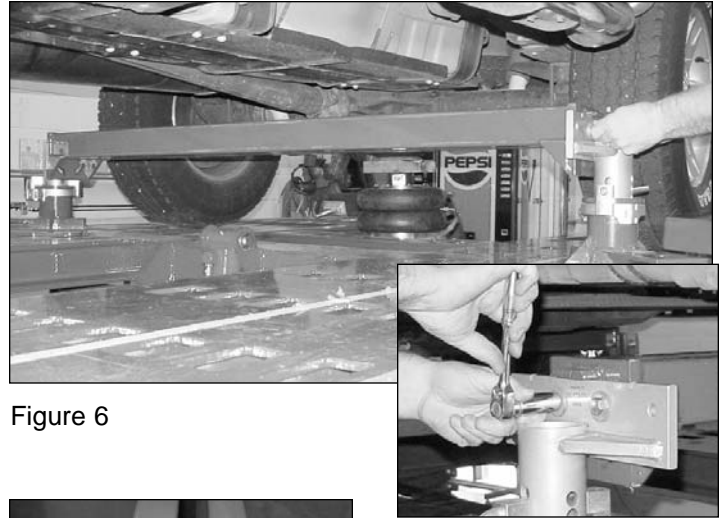

Figure 6
5. Attach crossbar to the anchoring stands. (See Figure 6 and its Inset.)